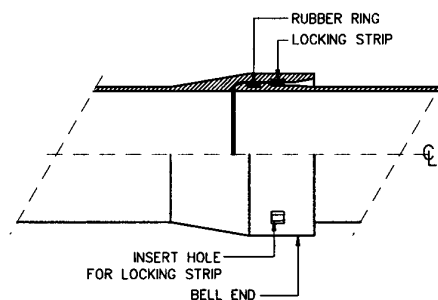

Figure 15 - Typical locked joint configuration
- The beveled end of the locking key should be resting against the inside surface of the socket when inserted. The insertion should be made using a wooden hammer or a piece of wood to tap the key until it rests against the first part of the key. See figure 15 for typical joint configurations for rubber seal locked joint (restrained bell and spigot joint).